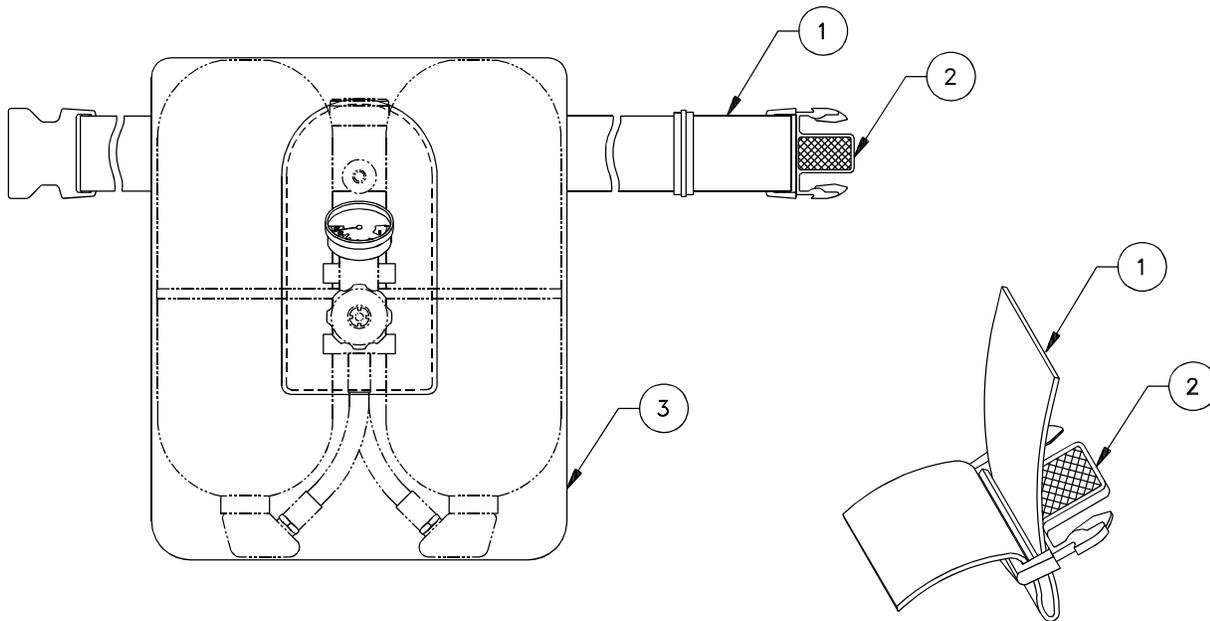

Figure 6-19. Waist Belt Assembly
6.7.10 Waist Belt Assembly Removal and Replacement (Figure 6-19).